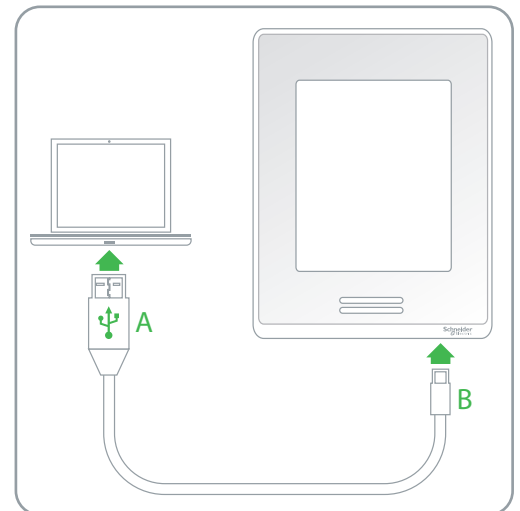

Figure 1. Connect Room Controller to system
1. Connect the computer to the Room Controller using the USB 'A' to Micro-USB 'B' cable (Figure 1).